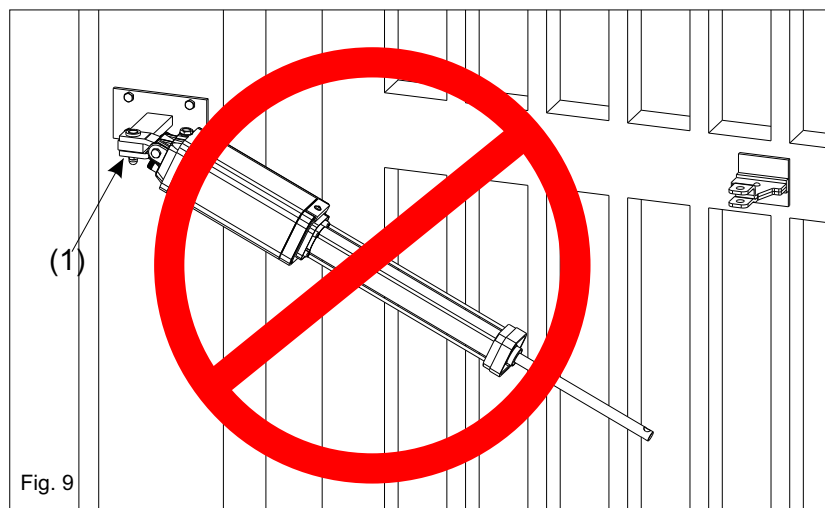

Fig. 9
- Attach the rear oscillating bracket as shown in fig. 9